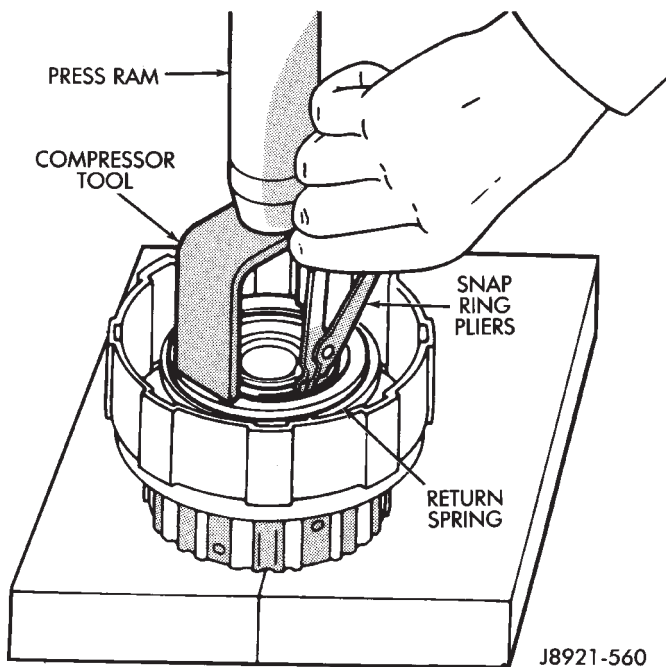

Fig. 6 Removing Piston Return Spring
(9) Compress clutch piston return springs with tool 7538 and remove clutch piston snap ring (Fig. 6).